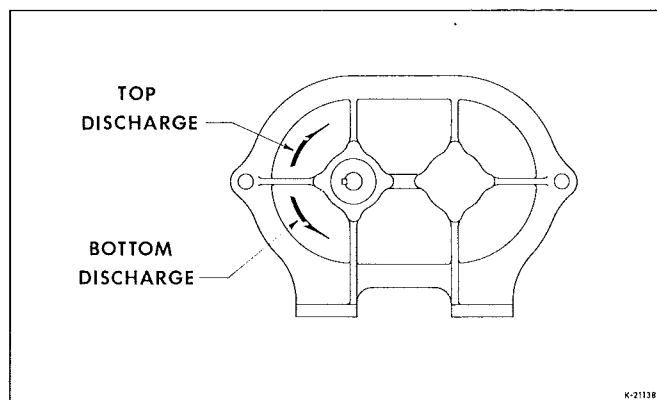

FIGURE 2—PIPING CONNECTIONS
8. Bump gas pump a few revolutions with driver to check that direction of rotation agrees with piping connections shown in Fig. 2, and that both units coast freely to a stop.